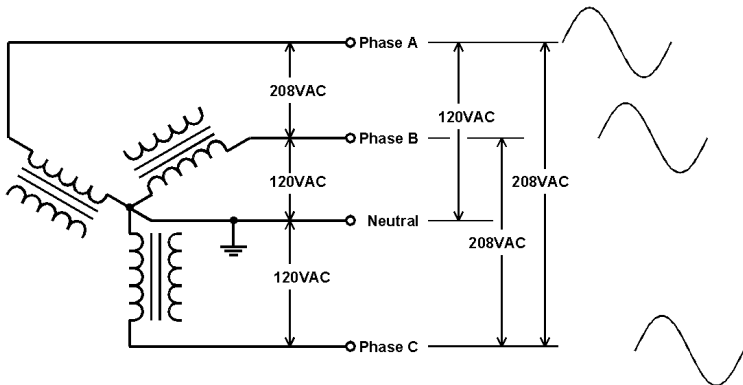
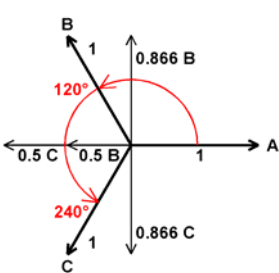
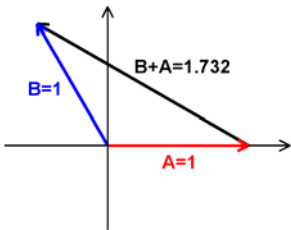

Figure 3a – Three Phase 208V/120V Power System (The Americas)
Figure 4a – 3-Phase Voltages
Figure 4b – Phase to Phase Voltage
Large facilities are connected to a three-phase ***service***, as shown in Figure 3a or 3b.
Three phase power is required to run most large motors. Figures 3a and 3b show that the voltage waveforms for the three phases are displaced from each other by 120 degrees. Figure 4a shows these voltages as “phasors,” a mathematical concept developed to analyze and describe how voltages *of the same frequency* but out of phase with each other combine with each other. We can think of these phasors as vectors that rotate around an origin, with the vertical height of the vector tracing a sine wave as it rotates.
We can “stop” these phasors at any point in time and analyze how they combine. Figure 4a shows them at the point where the voltage on phase A happens to be at 0 degrees, but we could have stopped them at any other point on the cycle. Figure 4b shows that when any two windings are in series (that is, we measure phase-to-phase) the voltage is 1.732 x the voltage of any one phase. Thus, a 3-phase system that has 120 VAC between each leg and neutral will have  $1.732 \times 120\text{V} = 208\text{VAC}$  from phase to phase. Why not 240 volts (or zero)? Because the two voltages are displaced by 120 degrees, not 180 degrees as in the case of a single phase (center-tapped) system. The constant 1.732 results from the 120 degree relationship between the phases. It applies to the ratio between single-phase and three-phase power systems, no matter what the voltage.
- 120/208V and 230/400V wye (Figure 3a, 3b)